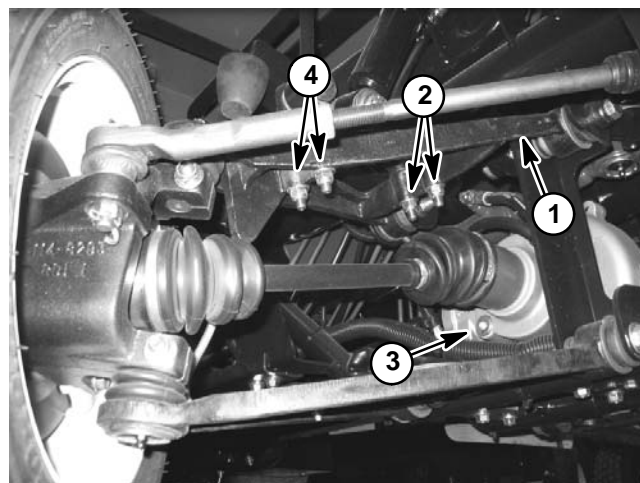

Figure 9
6. Remove four (4) flange head screws that secure the differential to the frame.
7. On right side (passenger side) of vehicle, remove inner two (2) flange head screws and flange nuts that secure control arm tower to upper control arm (Fig. 9). Removal of these two (2) fasteners allows clearance for differential removal. To prevent unexpected front suspension movement, **do not** loosen outer flange head screws and flange nuts.
2. Secure differential to the frame with four (4) flange head screws.
3. Install and tighten inner two (2) flange head screws and flange nuts that secure control arm tower to upper control arm (Fig. 9).